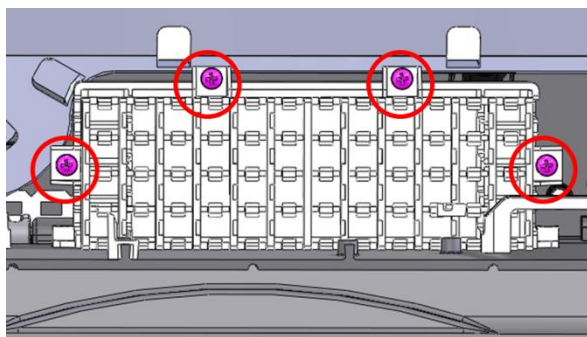

Fig. 23
3.7.1. Unscrew the parking support for the splitter (Fig. 23). Maintain the screws in a safe place in order to attach them back in place at the end of the installation.